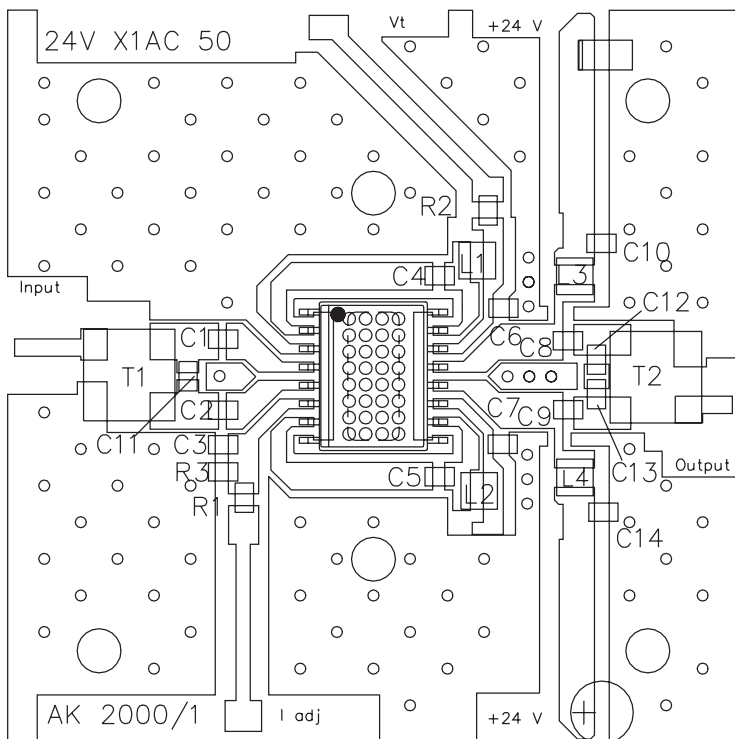

Figure 7: Evaluation Board Layout
(1) Measured with baluns on the input and output of the device.
(2) Flat output, +42 dBmV per channel.
(3) Flat output, +40 dBmV per channel.
4. All specifications as measured on Evaluation Board (see Figures 7 & 8).